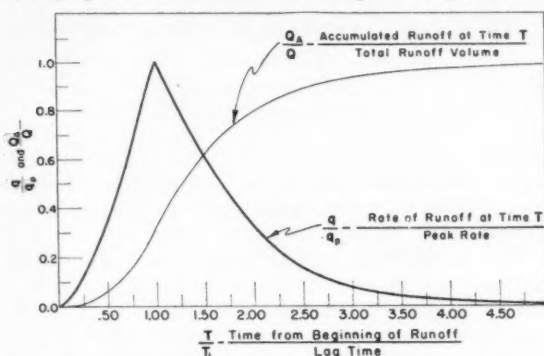
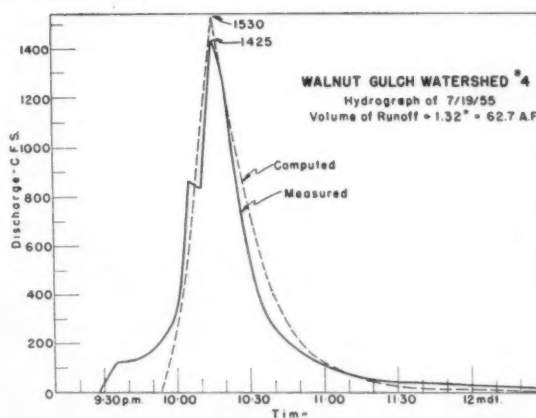

Fig. 6 Generalized dimensionless hydrograph and mass curve
Fig. 7 Comparison of measured and computed hydrographs
For each of the 13 uncultivated watersheds included in the study, an average dimensionless distribution graph was prepared, using all suitable runoff hydrographs. The time base was made dimensionless in terms of the watershed lag time, and time increments of 20 percent of lag time were considered. The dimensionless distribution graphs for all watersheds were averaged, and a generalized dimensionless hydrograph and mass curve were computed (Fig. 6). The
TABLE 2. DATA FOR DIMENSIONLESS HYDROGRAPH AND MASS CURVE (Fig. 6)
The next step is to compute, from equation [3], the peak rate of runoff (q_p) for any assumed total volume of runoff (V). For a particular design application, V may be estimated from the assumed design storm rainfall volume and an estimated rainfall-runoff relationship, or a design storm runoff volume may be established directly. For this example, $V = 62.7$ acre-feet, the actual measured volume of runoff for the storm of July 19, 1955, was used for a realistic comparison of an actual and a computed hydrograph. Thus q_p is computed to be 1530 cfs. The measured peak was 1425 cfs. Fig. 6, is entered with values of T/T_L to obtain values of q/q_p , enabling the computed hydrograph to be determined in its entirety with any desired degree of detail. The computed and measured hydrographs are compared in Fig. 7.
graph (time from beginning of runoff to the peak) varied between much wider limits than did the lag time. Rise time is frequently affected by the duration of rainfall excess and minor variations in rainfall intensity—whereas lag time is relatively independent of the rainfall pattern. Rise time varied from 74 percent to 145 percent of lag time for the individual watersheds in this study. The average for all watersheds was 102 percent. Accordingly the generalized dimensionless hydrograph was constructed with lag time and rise time equal. However, it may not be concluded from this coincidence that the time of rise of the hydrograph affords a generally satisfactory index of watershed influence on the hydrograph shape. The measured hydrograph of Fig. 7 illustrates this point. The first portion of the rising limb of the hydrograph, from 9:38 p.m. to about 9:55 p.m., was caused by a minor burst of intense rainfall. That this portion is relatively insignificant in characterizing the overall hydrograph shape is indicated by the fact that only 8 percent of the total volume of runoff occurred during this 17-min period. The rise time of this hydrograph is 47 min compared with a measured lag time of 20 min. It is the latter time factor which is important in describing hydrograph shape and its relation to watershed physiography.
Within the range of conditions encountered in the present study, the shapes of the dimensionless hydrograph and mass curve (Fig. 6), were found to be independent of rainfall pattern and of soil and cover condition.